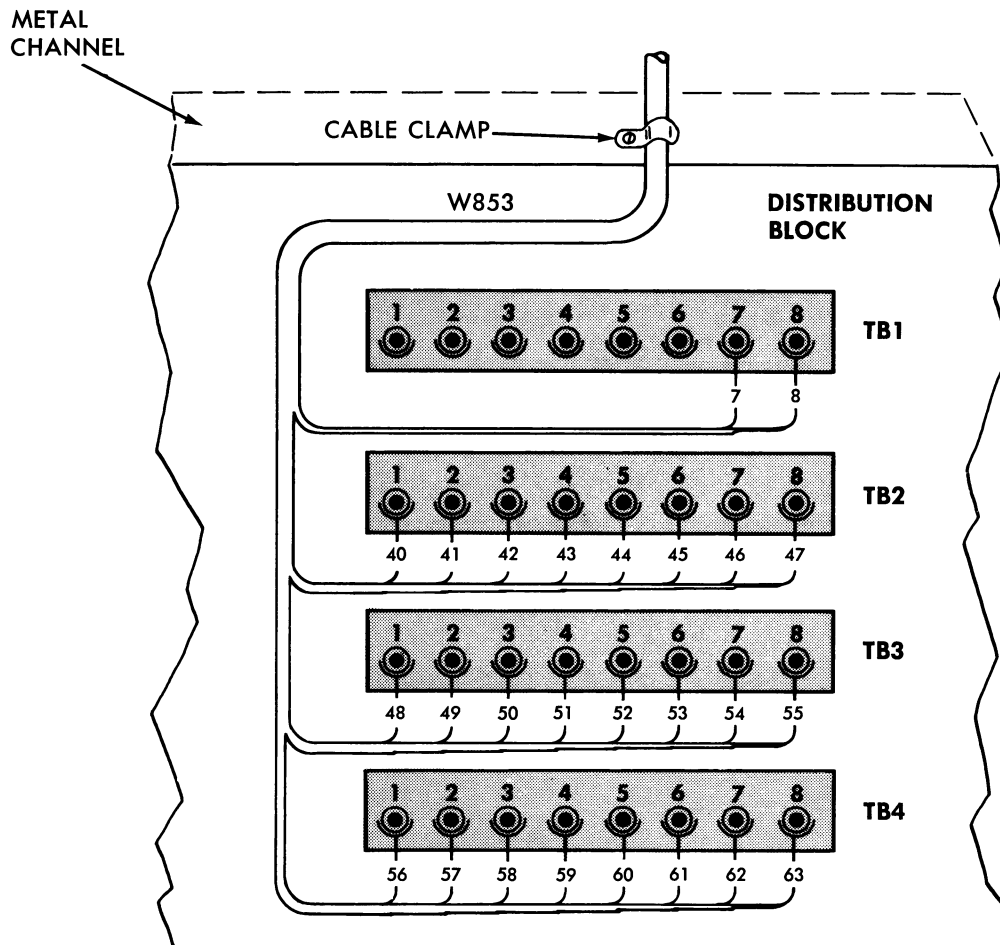

Figure 3 - Control Cable Connections
3. Connect the control cable (routed from the turret through H1 in the desk top) to the terminal boards as shown in Figure 3. Drill a pilot hole through upper metal channel for the distribution block (using 7/64" or #35 drill bit) and mount cable clamp as shown with a #6 x 5/8 thread forming screw.